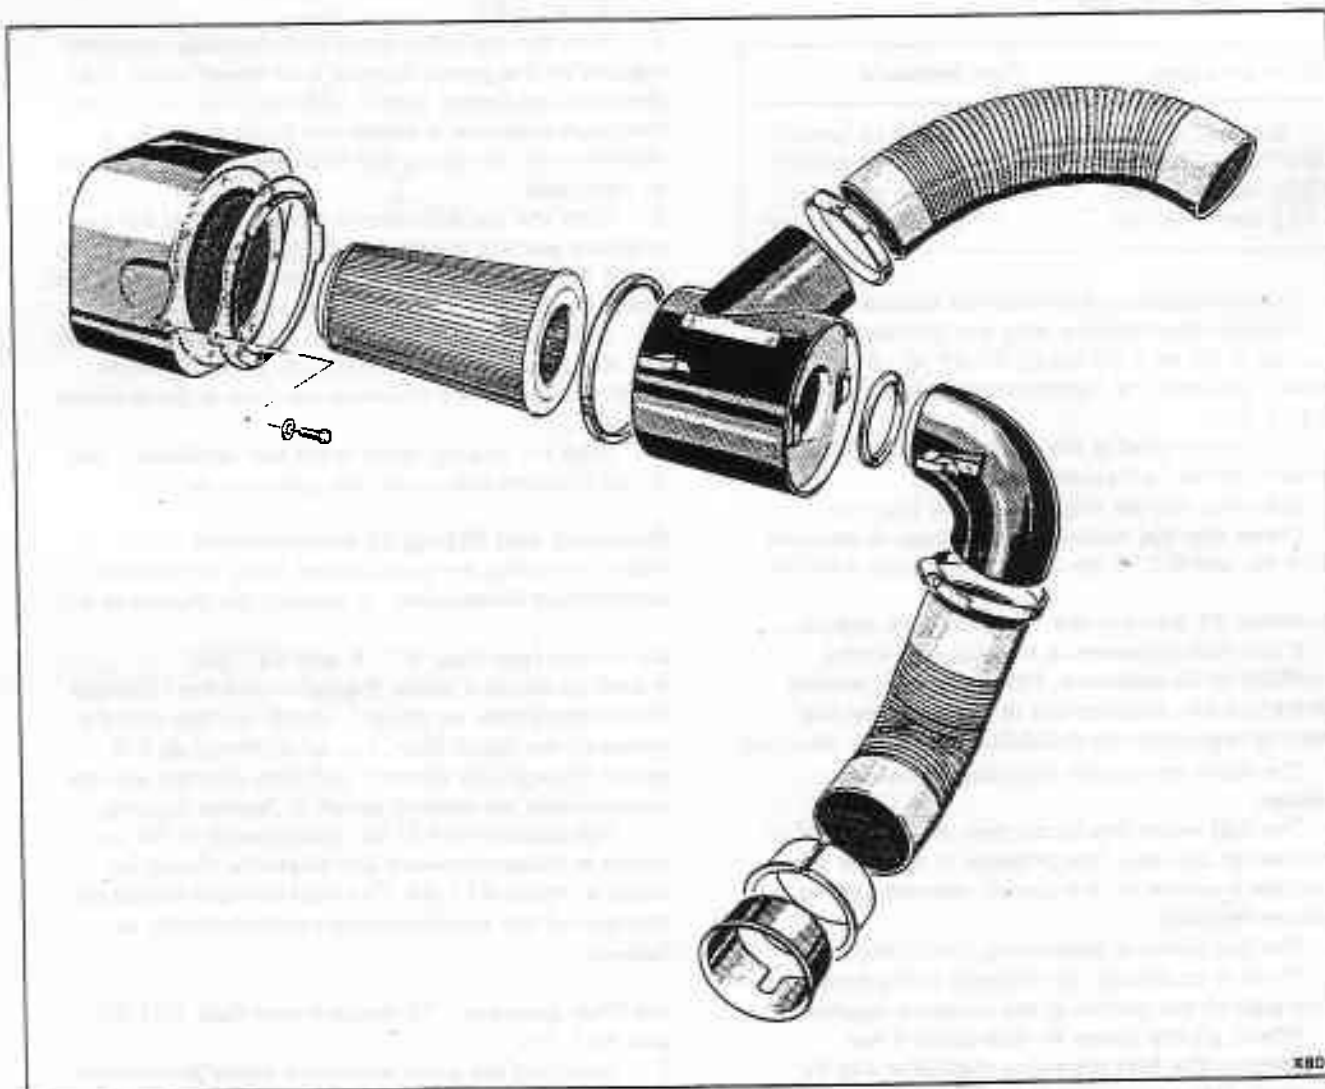

Fig. K11-36 Air intake system
The replacement of any components in the air intake is straight forward and reference should be made to figure K11-36. The filter element should be changed at the recommended service intervals as follows.
Air filter element - To remove (see figs. K11-36 and K11-37)
2. Inspect the two rubber seals (see fig. K11-36), ensuring that they are in good condition.